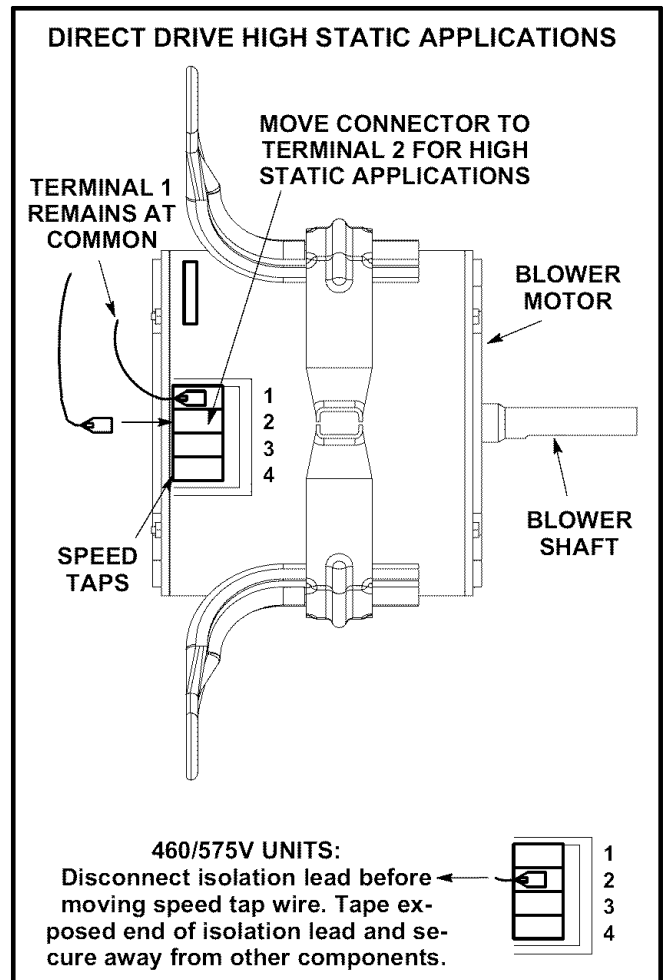

FIGURE 14
- 4- Use tables 2 and 4, the measured static pressure, and the factory-set blower speed to determine CFM. If CFM is lower than the design specified CFM, move the lead from pressure tap 3 or 4 to pressure tap 2. See figure 14. Refer to table 14 for minimum airflow when electric heat is installed.